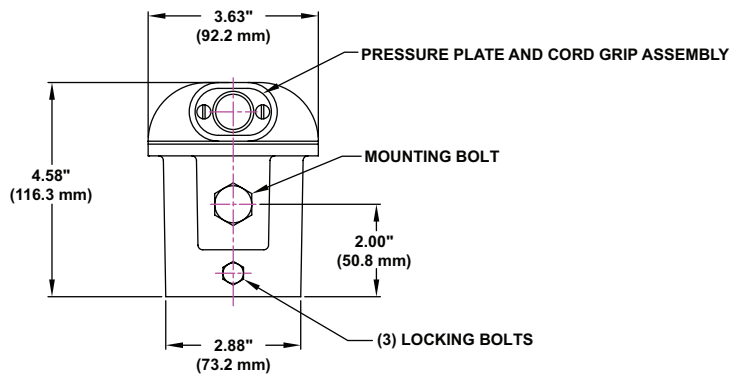

Figure 8: Poletop Slip-Fitter (P/N: G-SF20)
1. Loosen the two screws on the pressure plate for cord/cable entrance. See Figure 8.
5. Mount the luminaire with yoke to the poletop slip-fitter using the mounting bolt (supplied). Tighten the mounting bolt in place. See Figures 8 & 9.